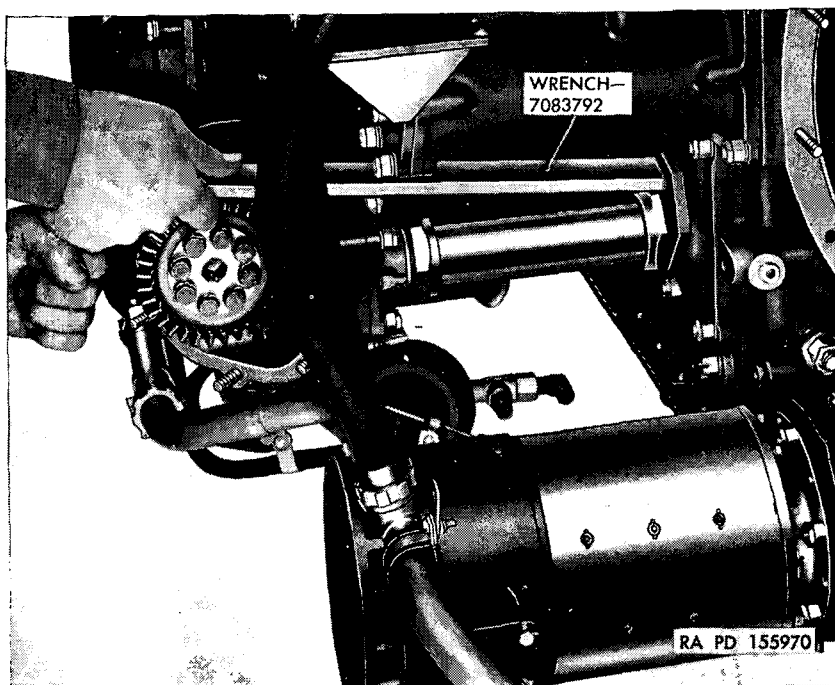

Figure 100. Tightening camshaft drive housing nut.
e. Tighten the camshaft drive shaft housing nuts, using crow-foot wrench 7083792 (fig. 100). Secure with safety wire.